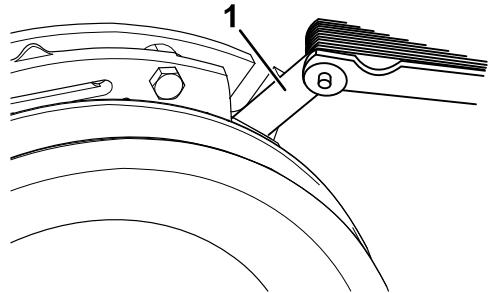
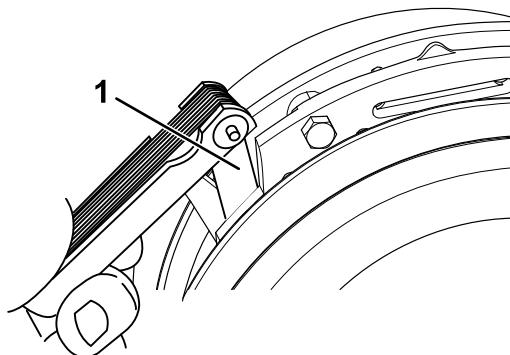

Figure 65
Figure 66
E. Using a 0.010 inch thick-feeler gauge, verify that a gap is present between the rotor and armature face on both sides of the brake pole as shown in Figure 65 and Figure 66.